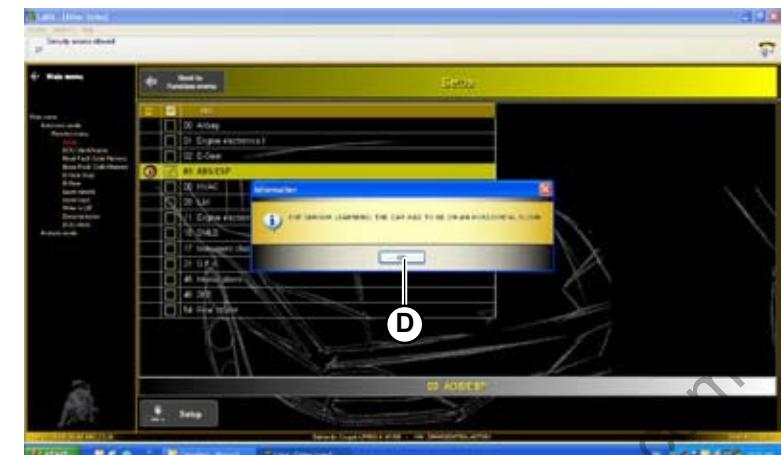

Fig.67
- Check the vehicle is horizontal and press OK (D-Fig.67) to continue.